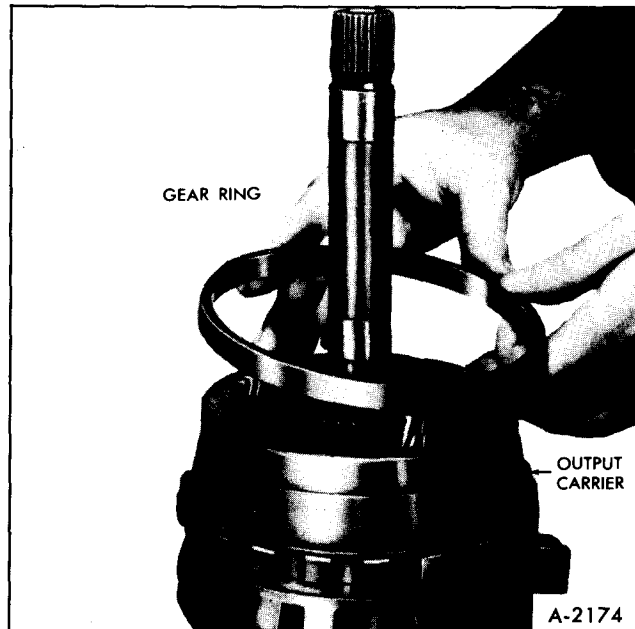

Figure 50—Removing Gear Ring
5. Remove front internal gear ring from output carrier assembly, Figure 50.